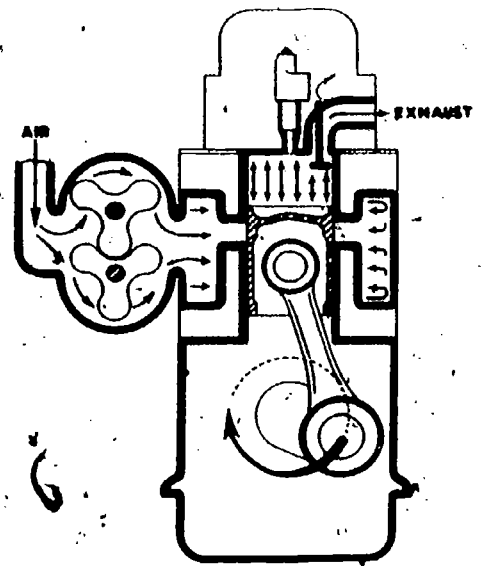

Fig 2-6d. Exhaust phase of downward stroke of engine piston.
- (d) **Exhaust.** When the piston is about halfway down, the exhaust valves are opened again, allowing the burned gases to escape into the exhaust manifold (fig 2-6d). Shortly thereafter, the downward movement of the piston uncovers the inlet ports and fresh air is again blown into the cylinder. Just as before, this helps to get the exhaust gases out, or scavenges them; it also fills the cylinder with fresh air. This entire combustion cycle is completed in each cylinder for each revolution of the crankshaft, or, in other words, in 2 strokes; hence the 2-stroke cycle.